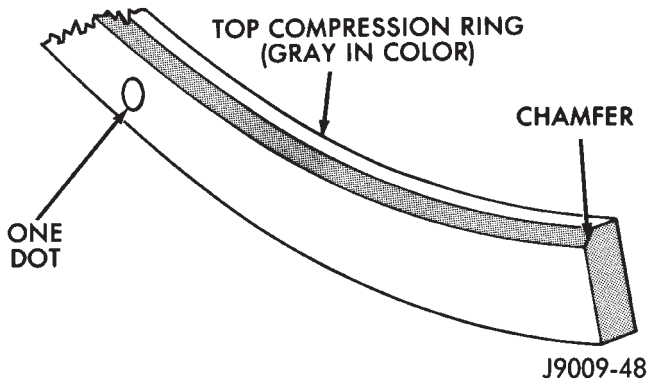
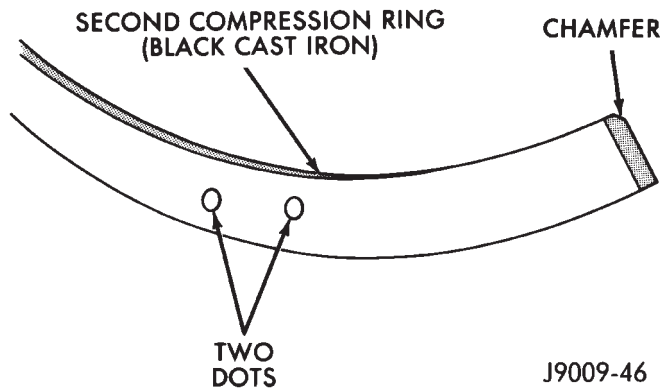

Fig. 13 Top Compression Ring Identification
Fig. 14 Second Compression Ring Identification
(6) The two compression rings are different and cannot be interchanged. The top ring (Fig. 13) is a moly ring (the scraping edge is gray in color). The second ring (Fig. 14) is a black cast iron ring (the scraping edge is black in color when new). The compression rings may also be identified by 1 or 2 dots on the top surface of the ring (Figs. 13 and 14).